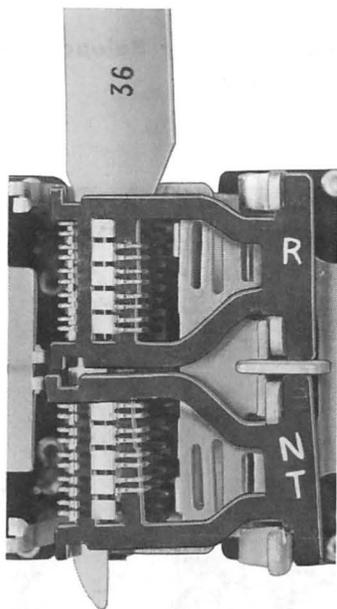

Fig. 6—Detail 36 Lifter in Place
3.13 On the top left side of the relay, with the taper of Detail 36 lifter facing to the left, place the lifter behind the cards, inserting it between the left movable twin contact springs and the fixed single contact springs as shown in Fig. 6. Push the lifter down until all the movable contacts are lifted away from the fixed contacts.